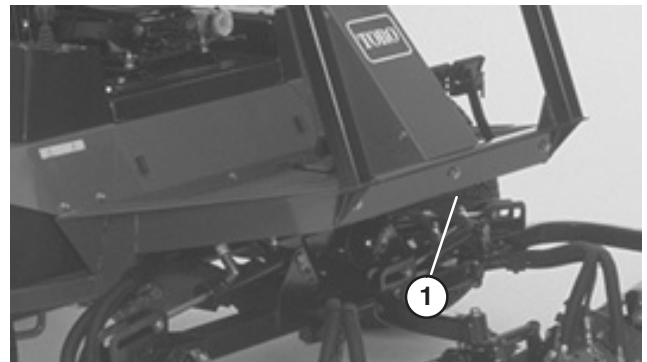

Figure 34
2. Attach a suitable chain, strap or cable to the center of the front frame member (Fig. 34).